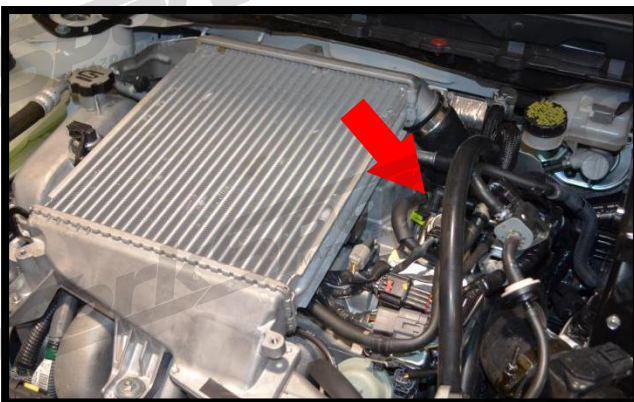

Figure 1d
- d) Locate the high pressure fuel pump (red arrow in Figure 1d).
- d) **Locate the high pressure fuel pump** (red arrow in Figure 1d). It is located behind the top of the engine, to the right of the intercooler.